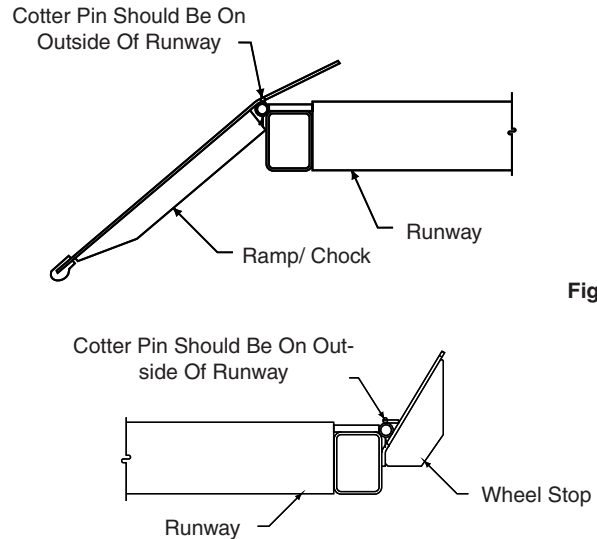

Fig. 30
19. Assemble ramp/chocks and wheel stops to runways using hinge pins and cotter pins. Ramp chocks go on rear and wheel stops go on front of runway, Fig. 30.